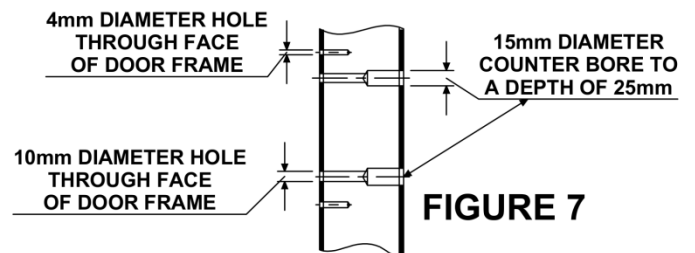

FIGURE 7
19. Drill outer keeper holes using a 4mm dia. drill through face of frame. Drill inner keeper holes using a 10mm dia. drill right through the width of the frame. Use a masonry drill if frame is concrete filled. Counter bore 15mm dia. x 25mm from outside face of frame. (Fig. 7)